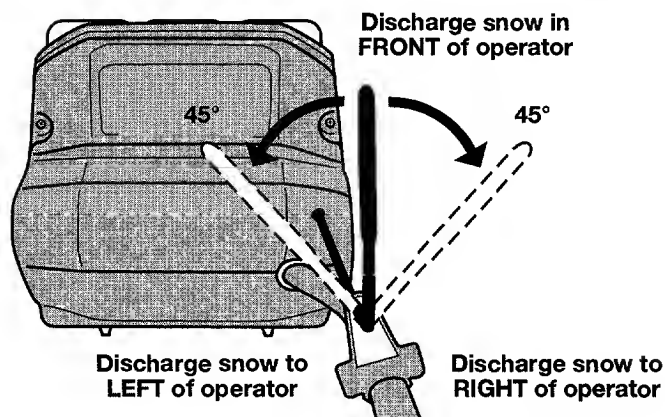

Fig. 5
2. Turn the discharge directional control to the left, center, or right, depending on which direction you want to throw the snow (Fig. 5).